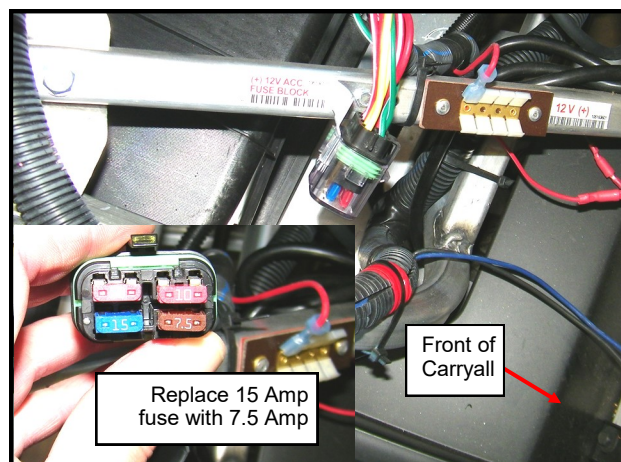

Figure 9.3: Front compartment Fuse Block (Electric vehicles only)
- 9.3 Locate the fuse block under the front hood. Remove the 10 Amp fuse and install the 7.5 Amp mini fuse. (**Figure 9.3**)